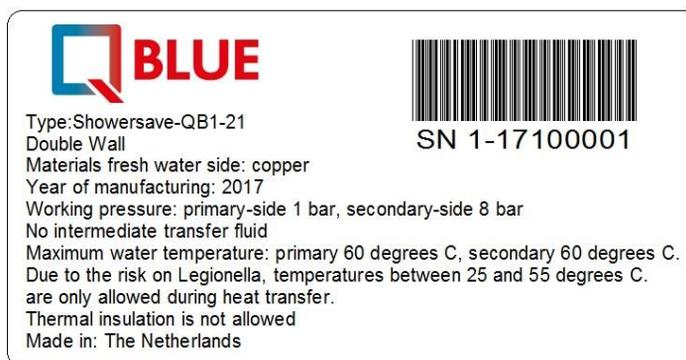

fig. 1
Each Showersave®QB1 has a label (see fig. 1) with printed on it a unique serial number and also technical information. This label should always stay on the Showersave®QB1 and may not be removed. If the label is removed or not readable garantee is no longer valid.
- Before the freshwater connection a non-return valve and a shut-off valve should be installed (type EA) (see afb.1 page 5)
The tap water connections should be demountable. Just before the tap water connection a non-return valve and a shut-off valve should be mounted (type EA) (see afb. 1).